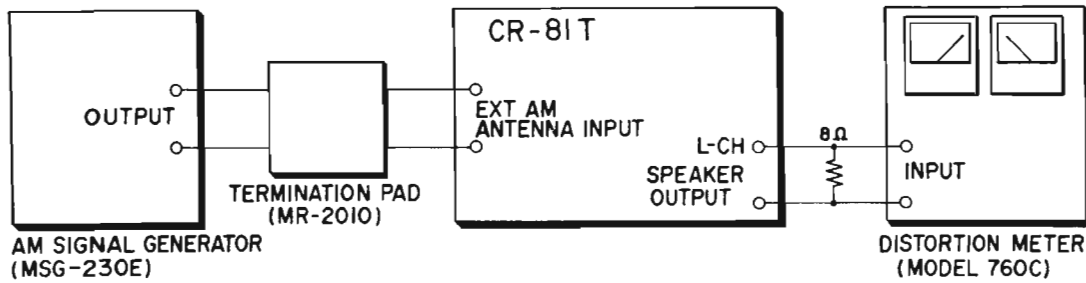

Fig. 30
7. AM RECEIVING FREQUENCY RANGE ADJUSTMENTS (See Fig. 30)